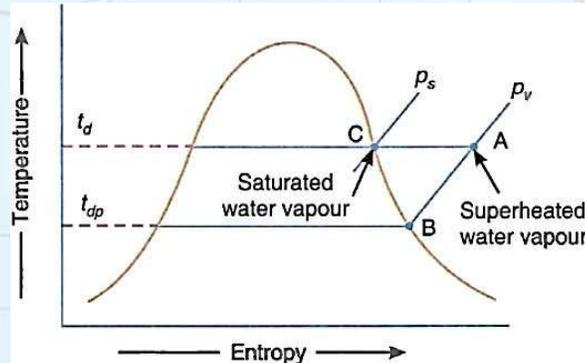

Fig.2.1 – T-s diagram
- ▶ Consider **unsaturated air** containing superheated vapour at dry bulb temperature (t_d) and partial pressure (p_v) as shown by point 'A' on the T-s diagram in Fig. 2.1.